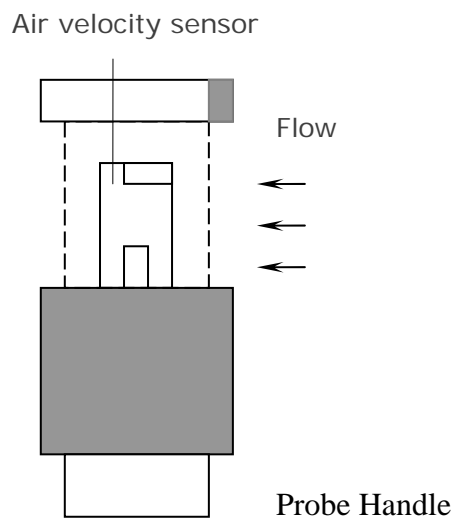
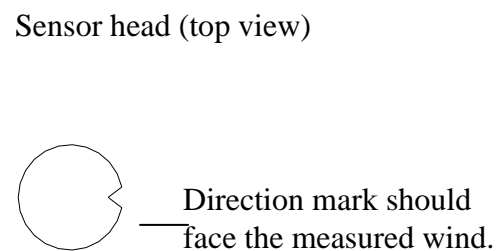

Fig.4
Fig.5
- Slide the sensor cover to the down position, let the air velocity sensor to contact the air, refer Fig.2. Extend the telescope probe to the convenient length, refer Fig.4.
There is mark on the top of the “Sensor Head”, When make the measurement, then this mark should against the measured wind, refer Fig. 4, Fig5. When sensor head face against the measurement air, then the upper display will show the air velocity value. The lower display will show the temperature value.